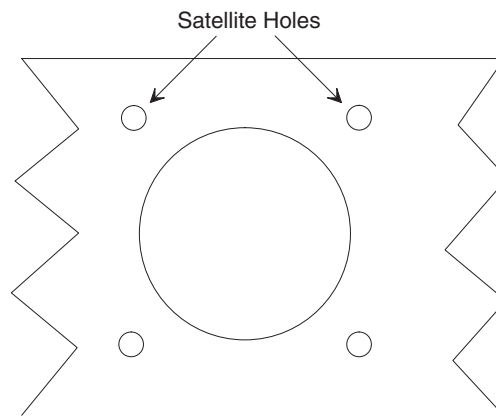

Figure 2-04 — Satellite Holes
- 2.15 **Satellite Holes** - A satellite hole is the smaller of two holes which has less than 0.40 inch distance between the edges of the holes. The smaller holes should be filled with a steel pin prior to coldworking the larger hole. The steel pin shall have a diameter less than the start hole diameter, but not greater than 0.002" under the start hole size. The purpose of these pins is to prevent the collapse of these holes during the coldworking of the larger hole. Ref Fig. 2-04.